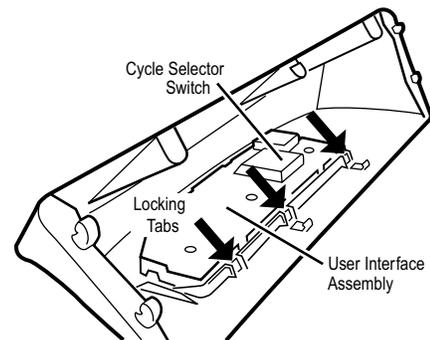

Figure 17. Gently apply pressure to locking tabs to release the user interface assembly.
6. Remove the cycle selector switch from the user interface assembly opening by lifting the locking tab on the cycle selector switch and turning the selector switch in a counterclockwise direction. See Figure 17.
7. Locking tabs located at the bottom of the console insert panel secure the user interface assembly to the console insert panel. Using a flat-blade screwdriver, gently apply pressure to the locking tabs to release the user interface assembly. See Figure 17.